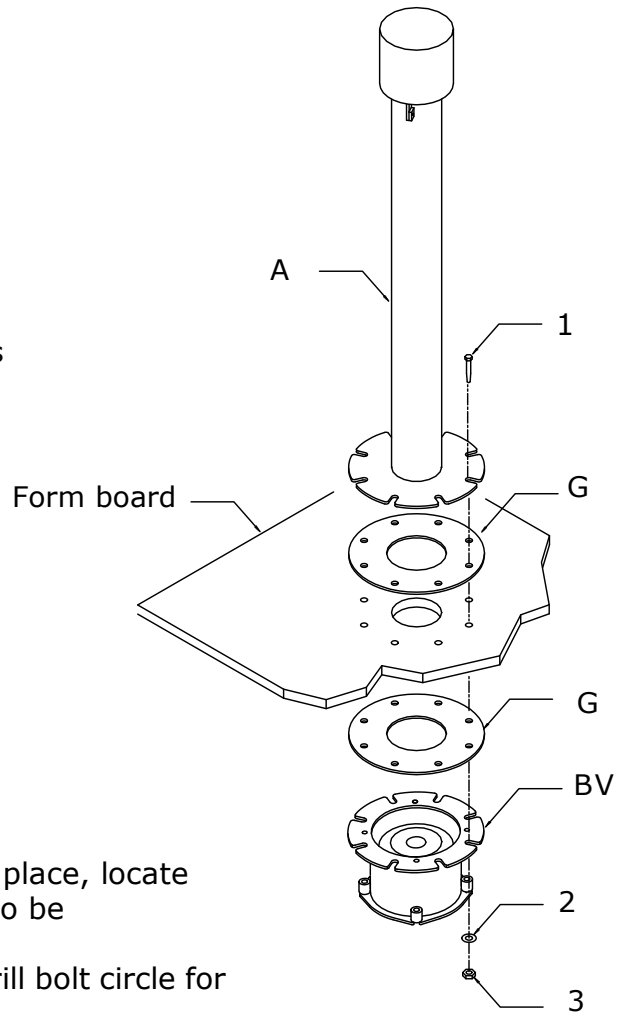

Figure 6
3. Using the 8 each ½ inch X 3-in length bolts, sandwich the assembly together as shown in figure 6.
When the concrete form may not be assembled as shown in figures 6 and 7, then the sleeve kit may be employed. This kit allows you to pour the concrete first, then install the vent pipes using concrete wedge anchors - which are included along with the masonry drill bit. See page 8 for using this kit in a wall installation.
When the concrete form may not be assembled as shown in figures 6 and 7, then the sleeve kit may be employed. This kit allows you to pour the concrete first, then install the vent pipes using concrete wedge anchors - which are included along with the masonry drill bit. See page 7 for using this kit in a ceiling installation